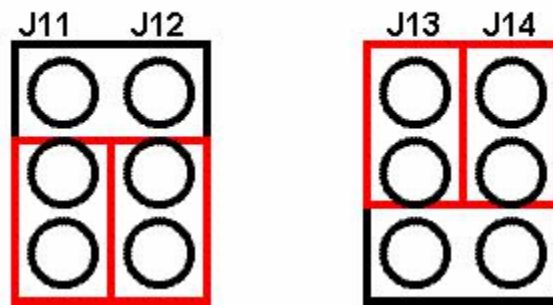

Figure 1: Orientation of J11/J12, J13/J14 header installation for 125MHz XAUI reference clock.
2. XAUI reference clock selection headers: use 125.00MHz (see Figure 1); J11/J12 and J13/J14 are horizontal mirror images.